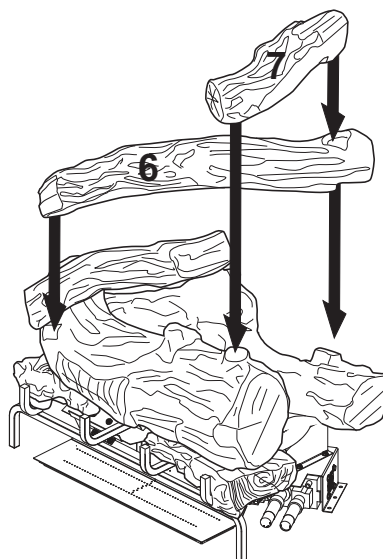

Figure 25 - Installing Logs #6 and #7
6. Place top middle log (#6) onto rear log (#1) and front log (#3). Match square peg on bottom of log #6 with square hole on log #4 and round hole on log #6 with peg on log #1 (see **Figure 25**).
7. Place top right log (#7) onto top middle log #6 and front log (#3) matching peg on bottom of top right log #7 with hole on top middle log #6 and hole in top right log #7 with peg on front log (#3) (see **Figure 25**).